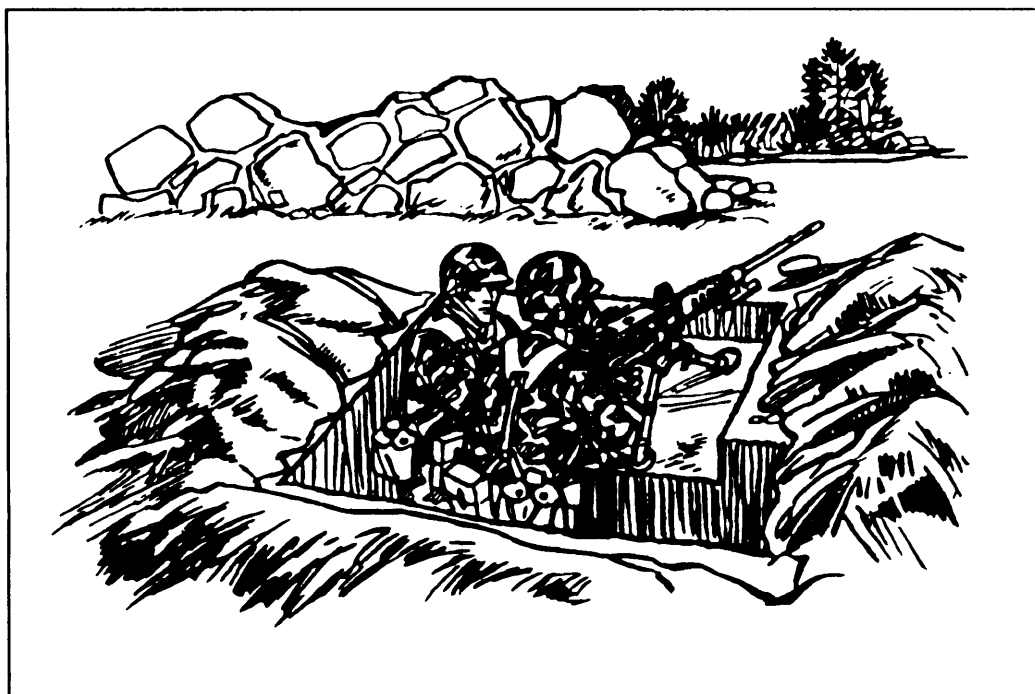

Figure D-5. Half of a position.
(2) When a position does not have a secondary sector of fire, the crew digs only half of the position (Figure D-5).